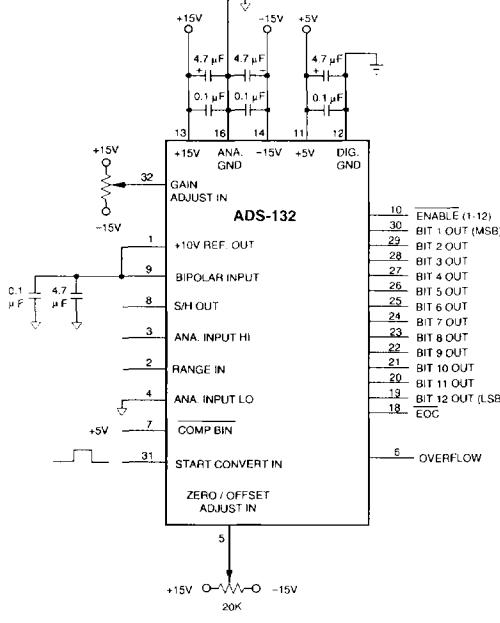

Figure 3. Typical ADS-132 Connection Drawing
1. Use external potentiometers to remove system errors or the small initial errors to zero. Use a 20K trimming potentiometer for gain adjustment with the wiper tied to pin 32 (ground pin 32 for operation without adjustments.) Use a 20K trimming potentiometer with the wiper tied to pin 5 for zero/offset adjustment (leave pin 5 open for operation without adjustment.) See Figure 3.
1. Connect the converter per Figure 3, Table 1, and Table 4 for the appropriate full-scale range (FSR). Apply a pulse of 60 nanoseconds minimum to the START CONVERT input (pin 31) at a rate 500 kHz. This rate reduces flicker if using LED's on the outputs for calibration purposes.